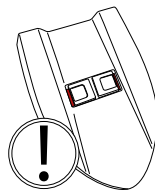

Fig.20
- Apply downward pressure to the lid, sufficient to make certain that the two sliding release catches spring outwards and engage with the top of the dirty water tank (Fig.20).
The lid is correctly installed when the **RED** background presented by the recesses of the two catches can **NOT** be seen (fig. 20).